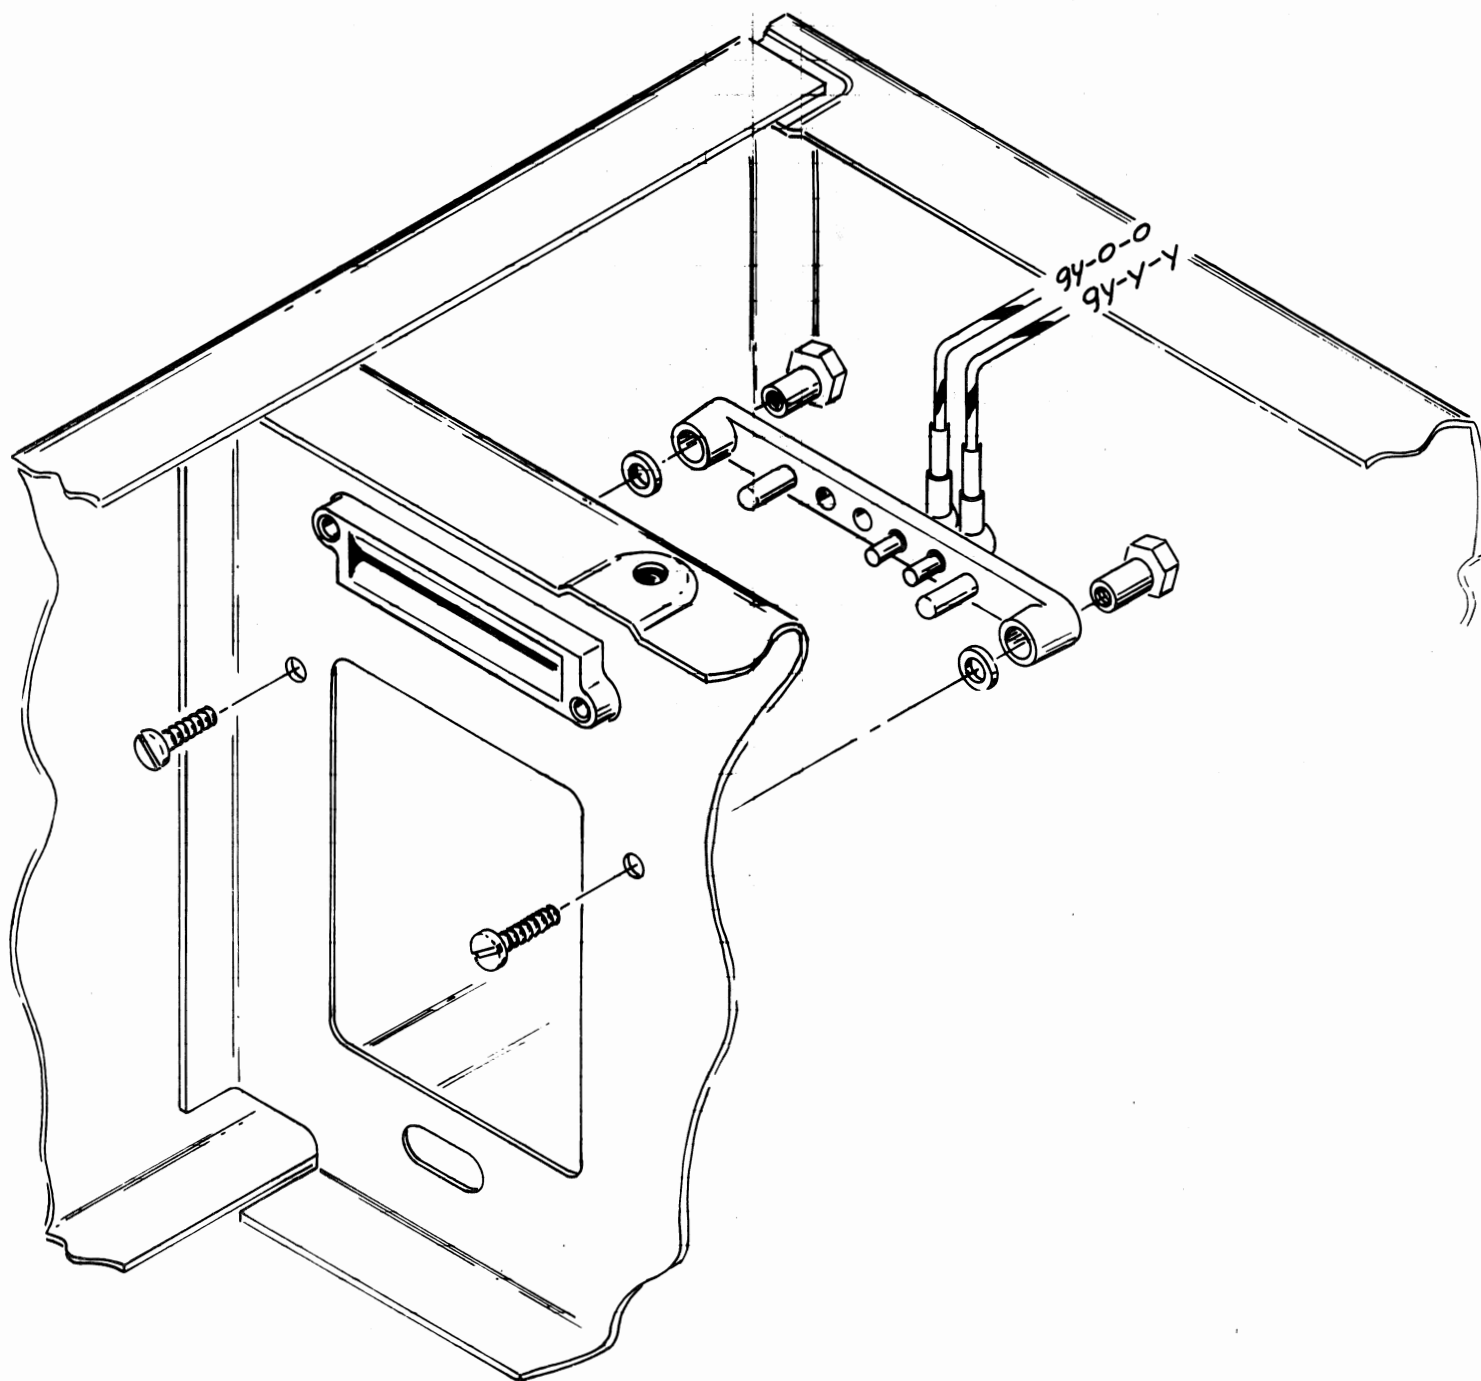

Fig. 3
- ( ) 3. Mount the connector assembly (from kit) as indicated in Fig. 3 (make sure connectors are in positions shown). Use the 6-32 x 1/2 PHS screws, spacer nuts, and flat spacers from the kit.